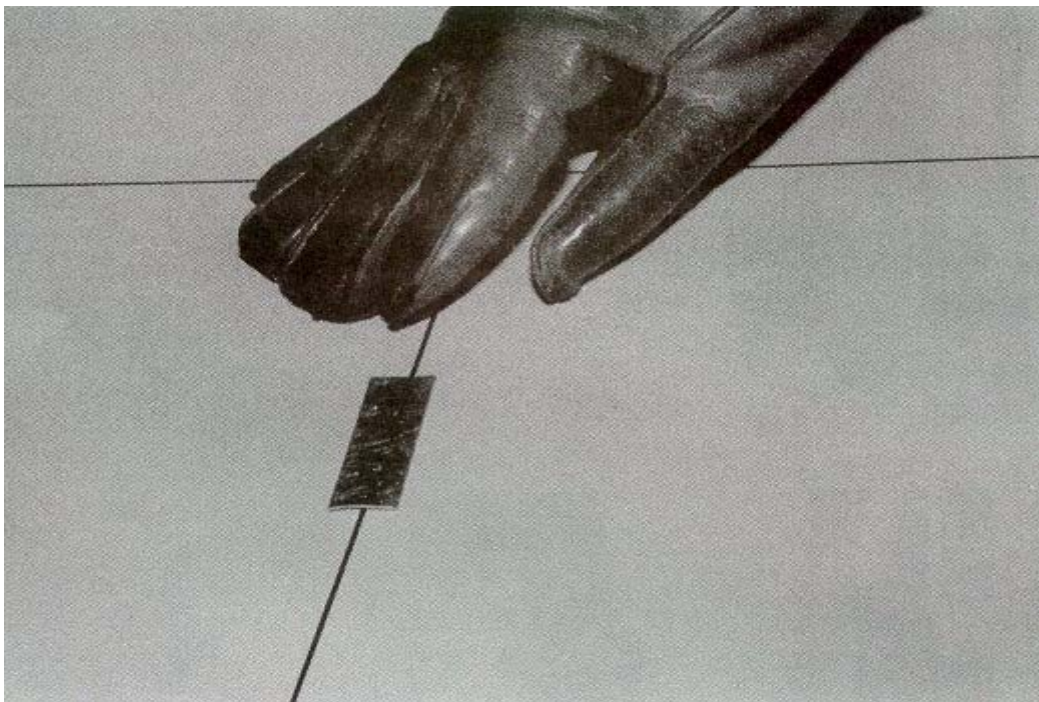

Figure 5-2. Place three-inch metal object on table.
b. Next, place the 3-inch metal object on the table (see figure 5-2).